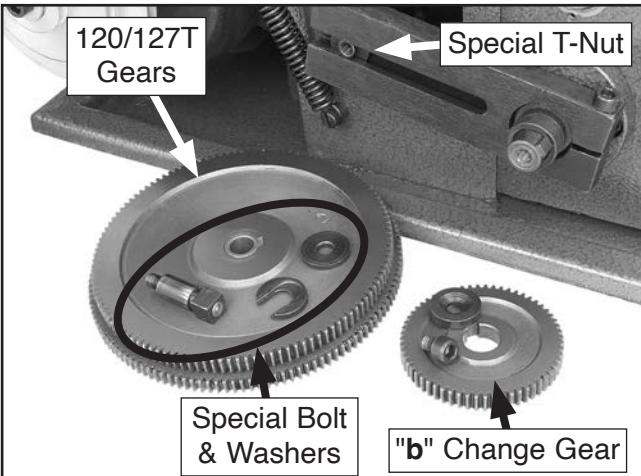

Figure 51. 120/127T Gears and "b" change gear removed.
7. Remove the special bolt and washers that secure the 120/127 combo gear, then remove the gears from the gear shaft (see **Figure 51**).
11. Remove the cap screw and flat washer that secure the "b" gear, then remove the gear from the gear shaft (see **Figure 51**).